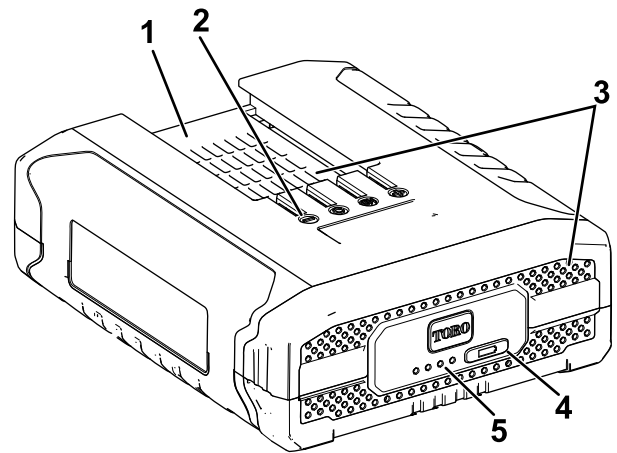

Figure 9
2. Line up the cavity in the battery pack (Figure 9) with the tongue on the charger.